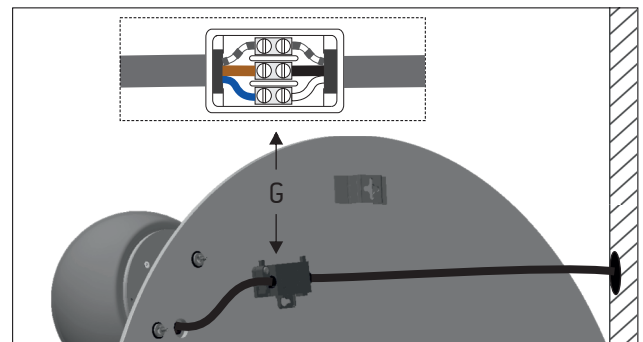

Figure 4A
Make the electrical connections within the supplied powerstrip (G) in order to assure water tightness. Figure 4A.